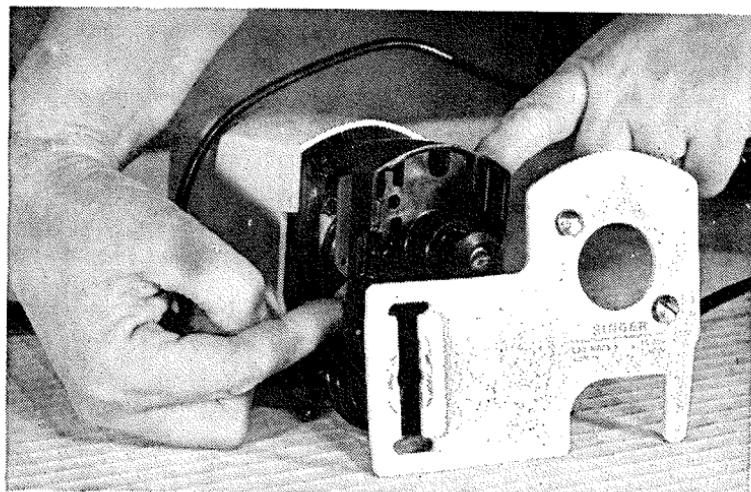

Fig. 2-13. On the Singer Model 248, the motor brushes are made accessible by removing the entire motor housing.
- On some motors, the brushes will be found by removing the entire motor housing (Fig. 2-13).